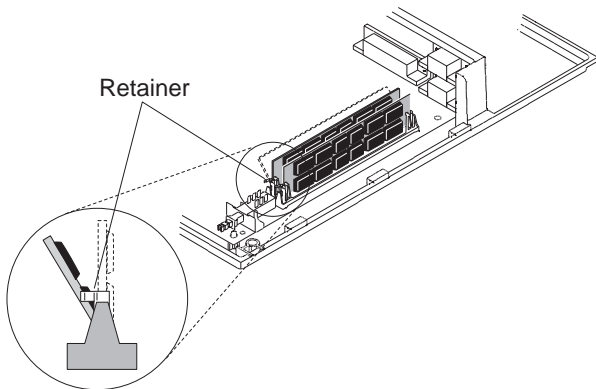

Figure 3-34. Installing a Memory Module
- 3 When exchanging a memory module, insert it into the socket as shown in Figure 3-34 and rotate it upright until it latches into place.